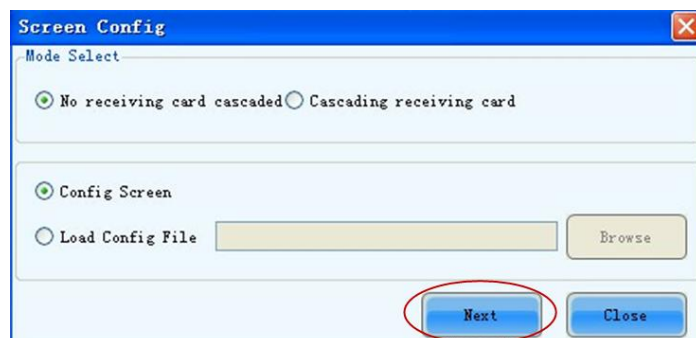
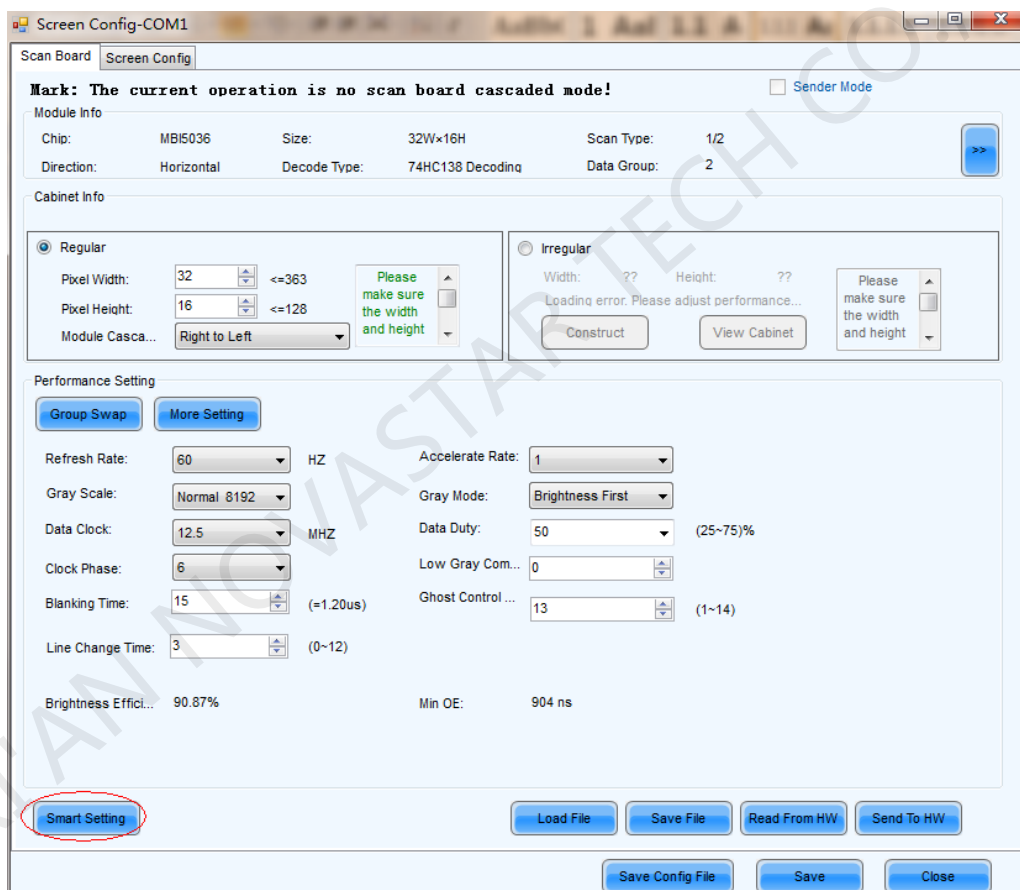
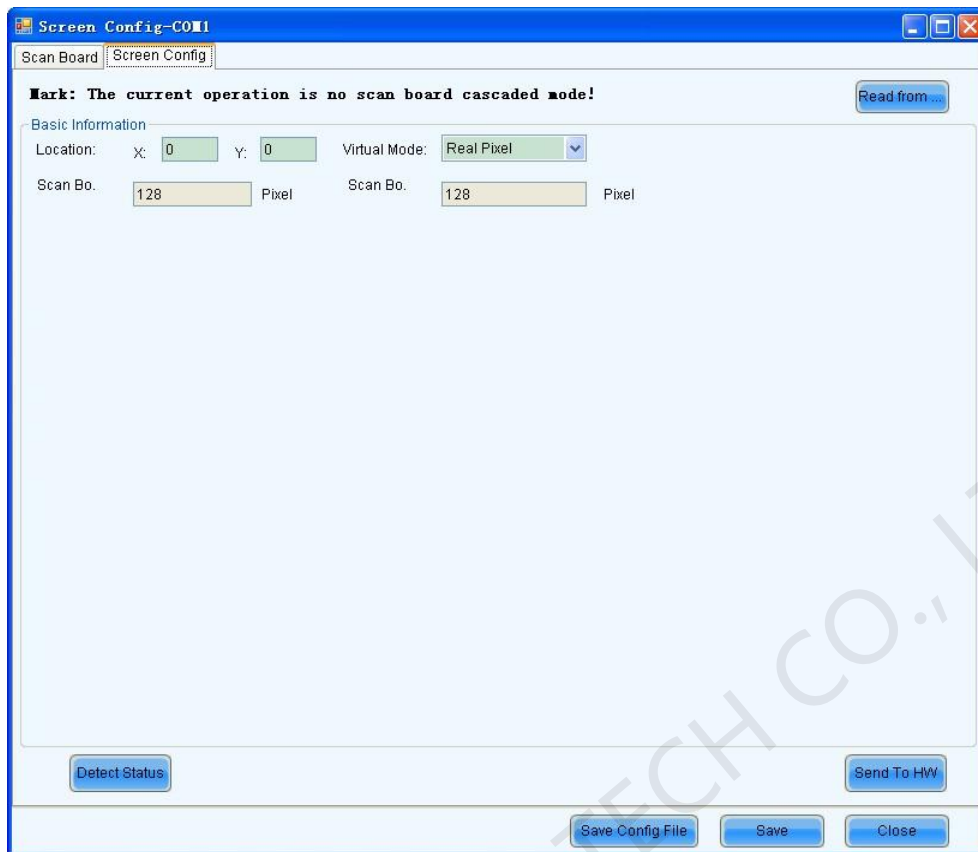

Fig. 7-1 Screen config window
Fig. 7-3 Screen Config page for manual configuration of LED display
Fig. 7-12 Screen config in No scan board cascaded mode
- 1) Select "Config Screen" option in the Screen Config window (Fig.7-1), and click " Next" , enter **screen config** window, as shown in Fig. 7-3
Switch to "Screen Config" page in Fig. 7-1, interface of No scan board cascaded mode as shown below in Fig. 7-12: